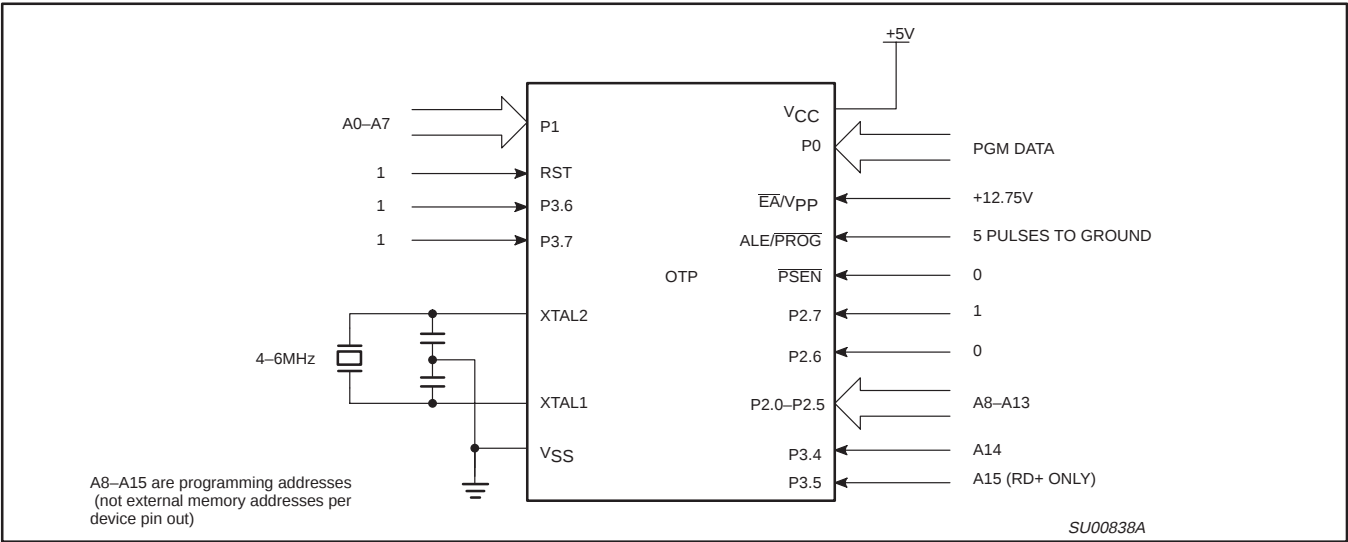
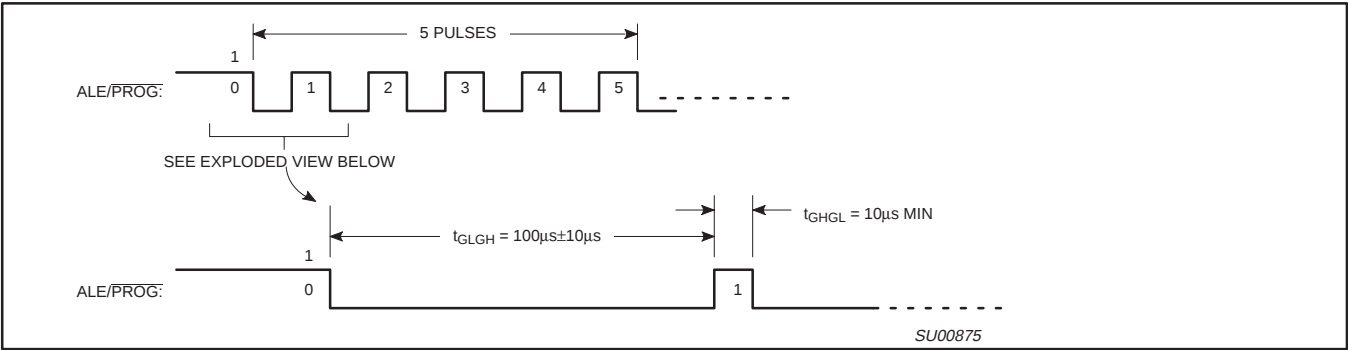
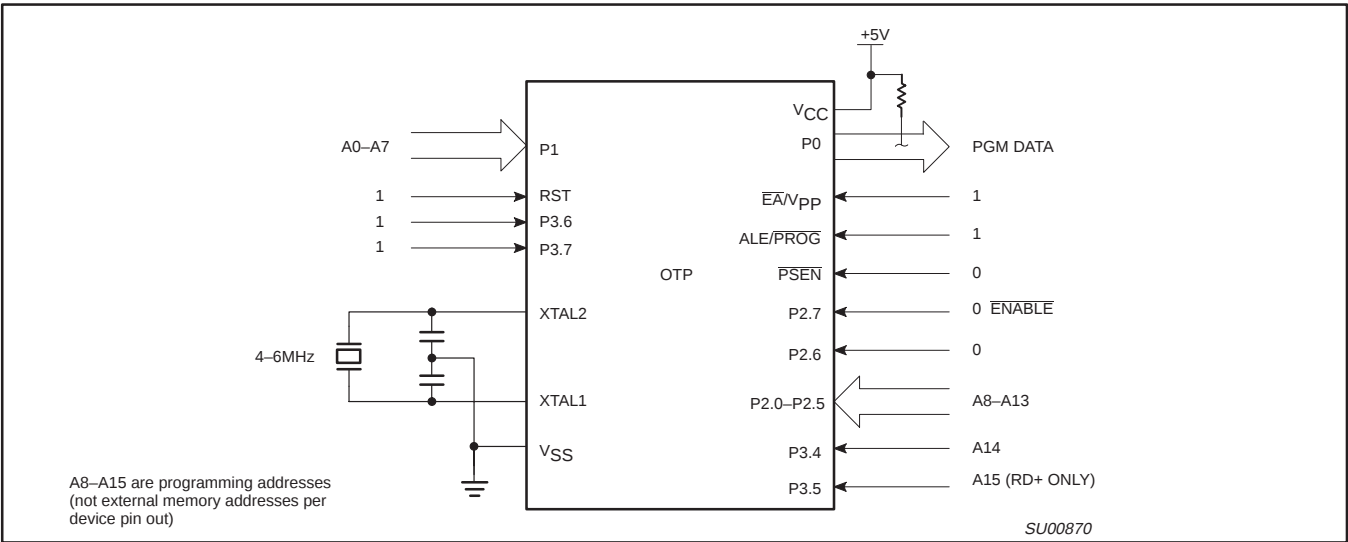

Figure 41. Programming Configuration
Figure 42. PROG Waveform
Figure 43. Program Verification
Table 9 shows the logic levels for reading the signature byte, and for programming the program memory, the encryption table, and the security bits. The circuit configuration and waveforms for quick-pulse programming are shown in Figures 41 and 42. Figure 43 shows the circuit configuration for normal program memory verification.
The setup for microcontroller quick-pulse programming is shown in Figure 41. Note that the device is running with a 4 to 6MHz oscillator. The reason the oscillator needs to be running is that the device is executing internal address and program data transfers.
The address of the EPROM location to be programmed is applied to ports 1 and 2, as shown in Figure 41. The code byte to be programmed into that location is applied to port 0. RST, $\overline{PSEN}$ and pins of ports 2 and 3 specified in Table 9 are held at the 'Program Code Data' levels indicated in Table 9. The ALE/PROG is pulsed low 5 times as shown in Figure 42.
address of the program memory locations to be read is applied to ports 1 and 2 as shown in Figure 43. The other pins are held at the 'Verify Code Data' levels indicated in Table 9. The contents of the address location will be emitted on port 0. External pull-ups are required on port 0 for this operation.
- * FOR PROGRAMMING CONFIGURATION SEE FIGURE 41.
FOR VERIFICATION CONDITIONS SEE FIGURE 43.